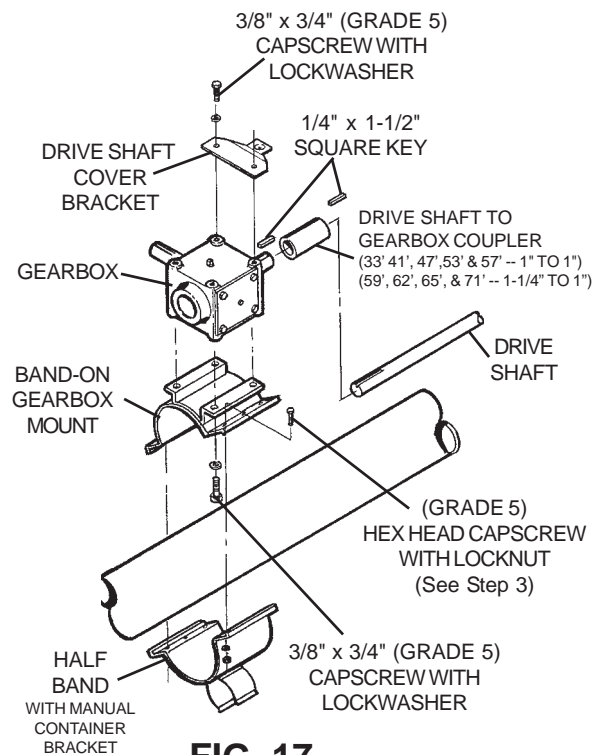

FIG. 17
Step 3. Set gearbox on auger and connect to drive shaft with coupler and two 1/4" x 1-1/2" long square keys. (See Fig. 17.) **NOTE:** On 41' models, the connecting band bolts may need to be loosened, so the gearbox can be slid forward when the drive shaft coupler is installed. Tighten connecting band bolts after drive shaft coupler is installed.